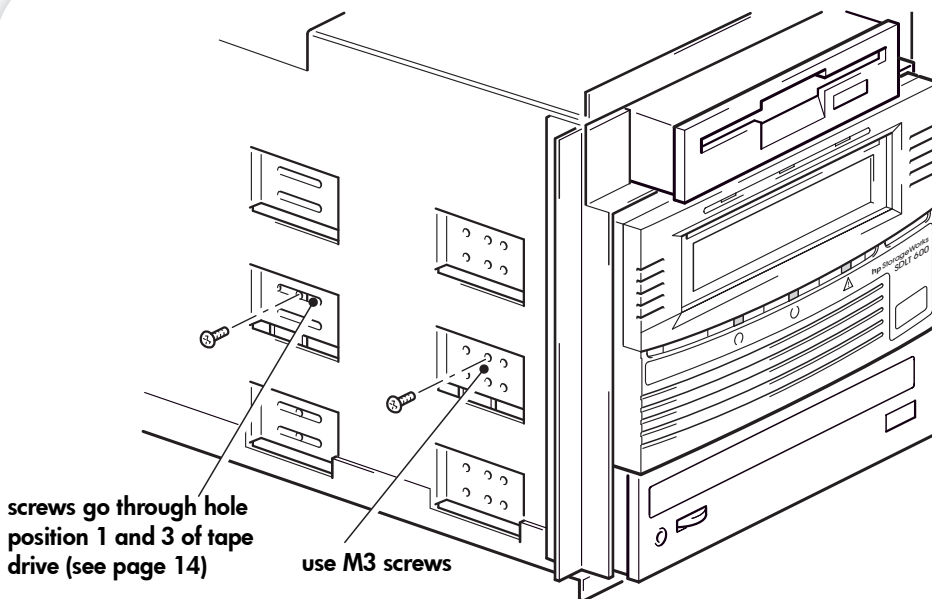

Figure 8b: securing drive, no mounting hardware
- 1 Use the M3 screws provided with the tape drive to secure it in place. Check that the holes in the chassis are aligned with the holes in the sides of the drive and use a regular Phillips screwdriver to secure the M3 screws, as shown in Figure 8b. Position the screws so that they sit in the right-hand holes on the tape drive (holes 1 and 3).